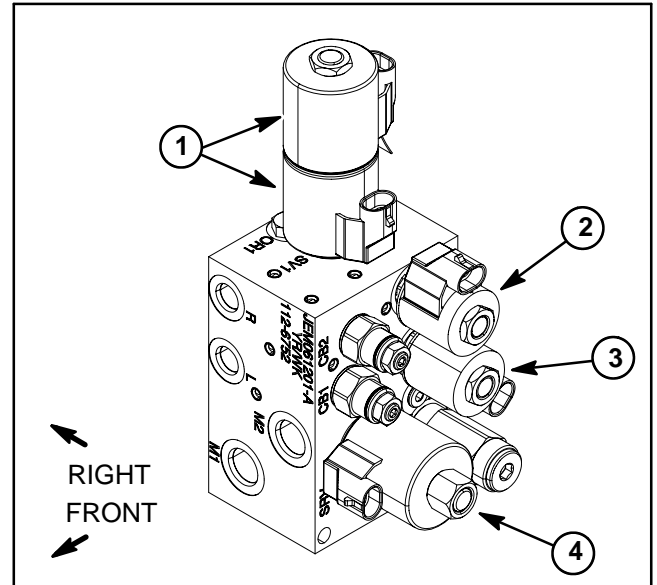

Figure 13
The hydraulic system on the Pro Sweep uses five (5) solenoid valve coils on the hydraulic control manifold (Fig. 13).